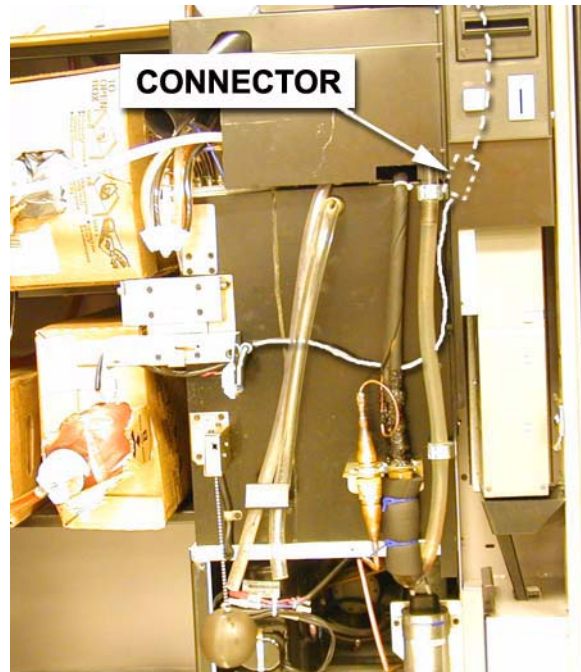

Figure 6
- c. The harness (6559010) from the sensor bracket assembly is shown routed next to the water bath and up the side of the monetary panel and connected to the 6559011 harness behind the monetary panel (see figure 6).